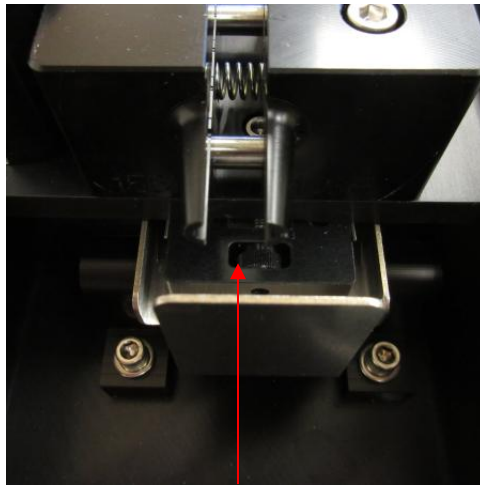

Figure 6
- The stop gate allows for repeatable insertion of the tubing onto the fitting to a desired position on that fitting. (halfway on, fully on up to shoulder, etc.) The stop gate is adjusted via the thumb wheel. (Figure 6)